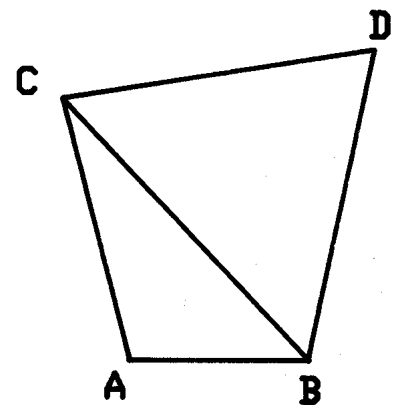

Fig. 2
2. Fig. 2 shows a quadrilateral ABDC in which the triangle BCD is twice the area of the triangle ABC. The triangle ABC has a perimeter of 240mm and its sides are in the ratio of 2:3:4. The sides CD and BD are equal in length.